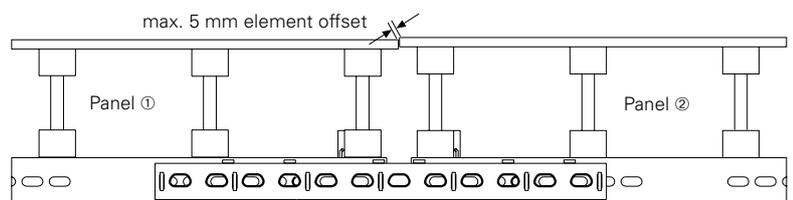
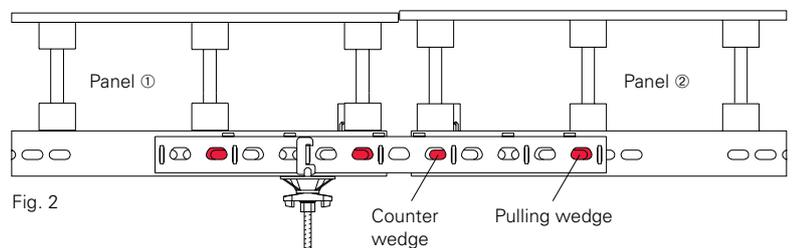

Fig. 1
Fig. 2
- The smaller side of the trapezoidal-shaped cut-outs point to the plywood. (Fig. 1)
- With element offsets, mount Alignment Clamp VRS on Panel ① which is positioned more rear.
- Release pulling wedge on Panel ②.
- Use counter wedge to slightly open the formlining joint on Panel ②. (Fig. 2)
- Loosen pulling and counter wedges on Panel ①.
- Tightly close joint on Panel ② with counter wedge.